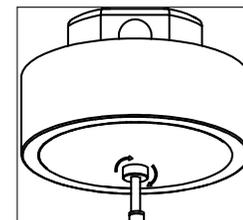

Figure 3: Canopy Mounting
5. Reattached canopy cover by turning lock screw clockwise while pressing canopy cover firmly to base. [Figure 3]